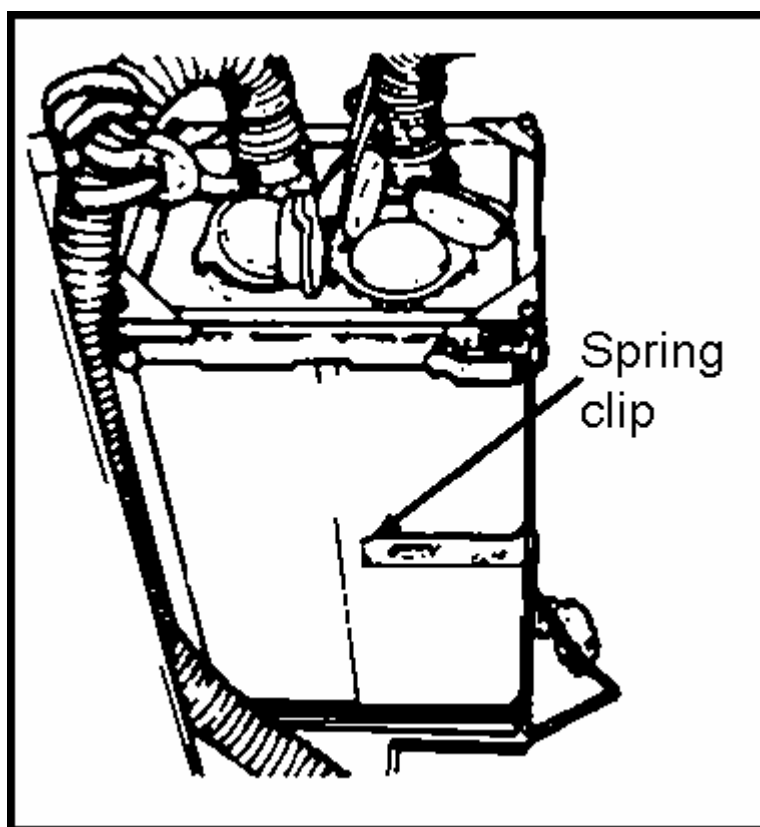

Figure 052-227-1135-1
3. Slide the spring clip off the air-intake holes in the gas-particulate filter unit until the openings are uncovered (Figure 052-227-1135-1).